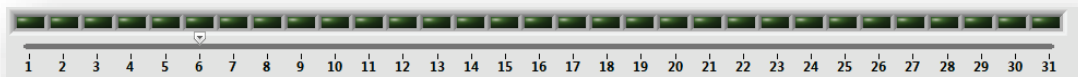

Figure 22
- 1.7. The application allows log of more than one Power Supply, by enabling the log of additional (RS-485) units. Up to 31 devices can be logged in total. The green buttons in Figure 22 should be enabled, only status is logged. Each Power Supply has its own unique log file named by the unique address, model, serial number and main firmware revision.